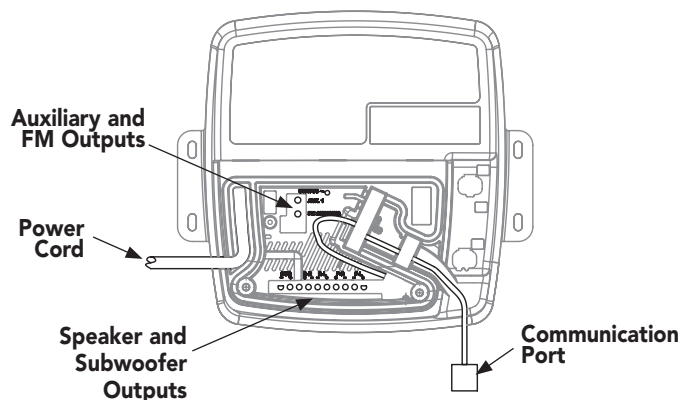

Figure 7
2. Connect the outputs of AudioSteam as shown in **Figure 7**.